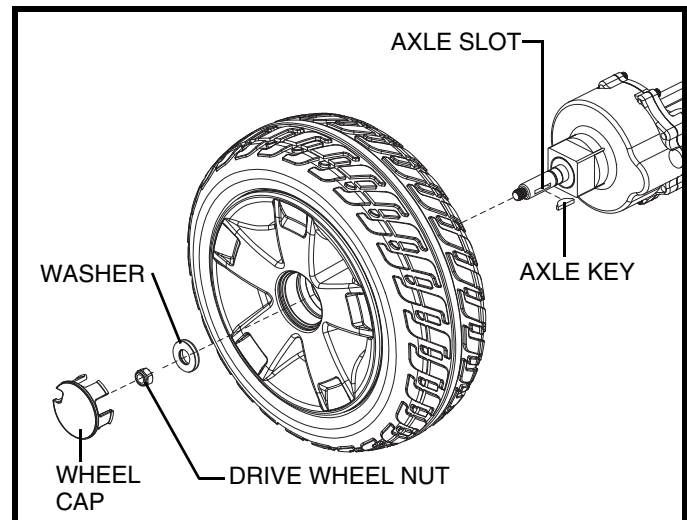

Figure 25. Solid Tire Wheel Removal
3. Remove the wheel cap, drive wheel nut, and washer from the axle. See figure 25.